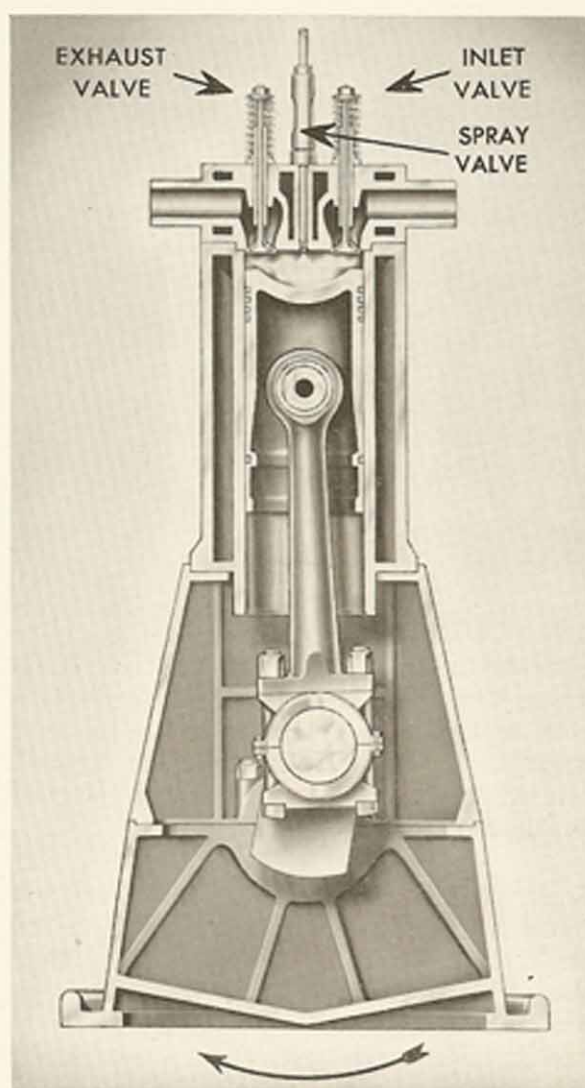

Figure 1-6
12. FUEL INJECTION: So now we have the combustion chamber full of compressed air at a red-hot temperature. All that remains is to spray or inject Diesel fuel into the combustion chamber, as indicated in Figure 1-6.